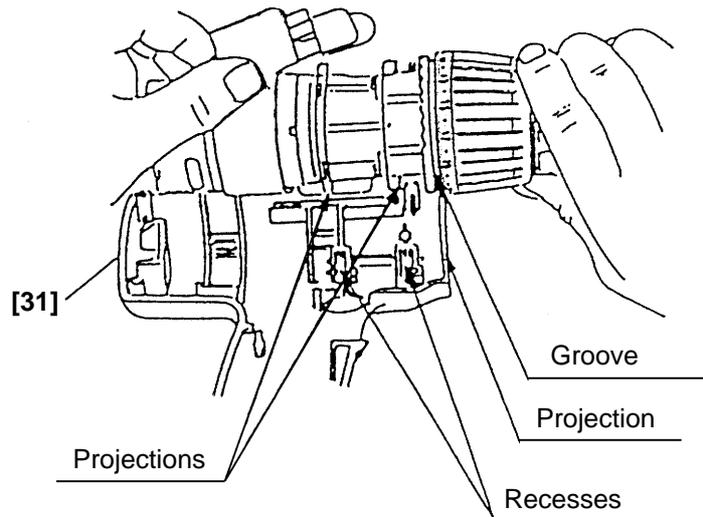

Fig. 15
(b) Install the assembly reassembled in step (3) into Housing (A) [31]. Note that the projections on the Front Case [9] and the Motor Spacer [24] are engaged in the recesses in Housing (A) [31], and the projection on Housing (A) [31] is engaged in the groove of the Cap [4]. (See Fig. 15.)